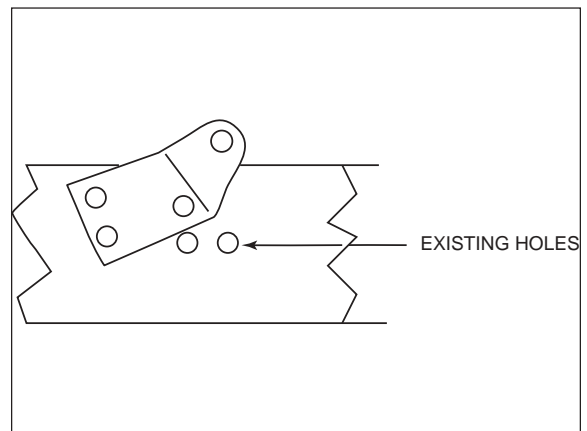

Figure 11
5. Set the upper bracket against the frame. The forward hole will set 1.00" above the back existing hole that is in the frame. (Figure 11)